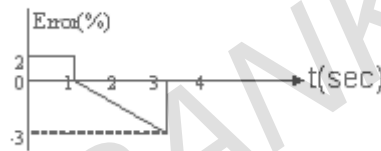

Figure 8b
- (b) A proportional controller has a gain of 3. Plot the controller output for the error given below figure 8b if $P_o = 50\%$. (P_o – controller output with no error) [8+8]